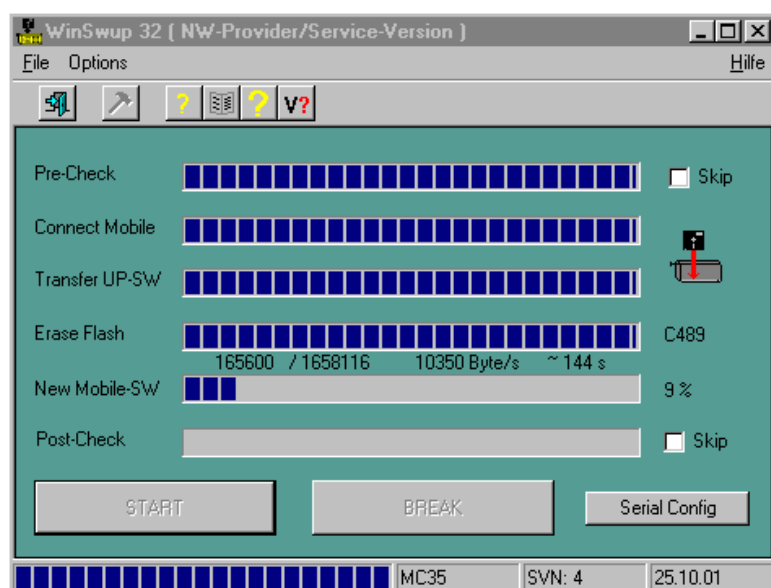

Figure 13: WinSwup32 window during download
- The Pre-check function of WinSwup32 (see Figure 13) is capable of checking whether your current firmware is serviceable. Since this test can only be completed if your current firmware is working, you need to